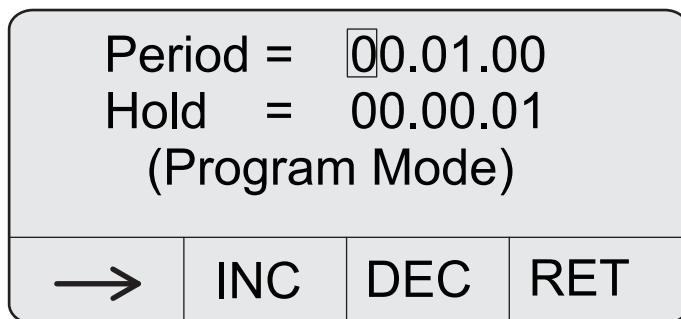

Figure 14 Period and hold screen
2. Press **2 (NXT)** to display the Period and Hold screen (refer to Figure 14).